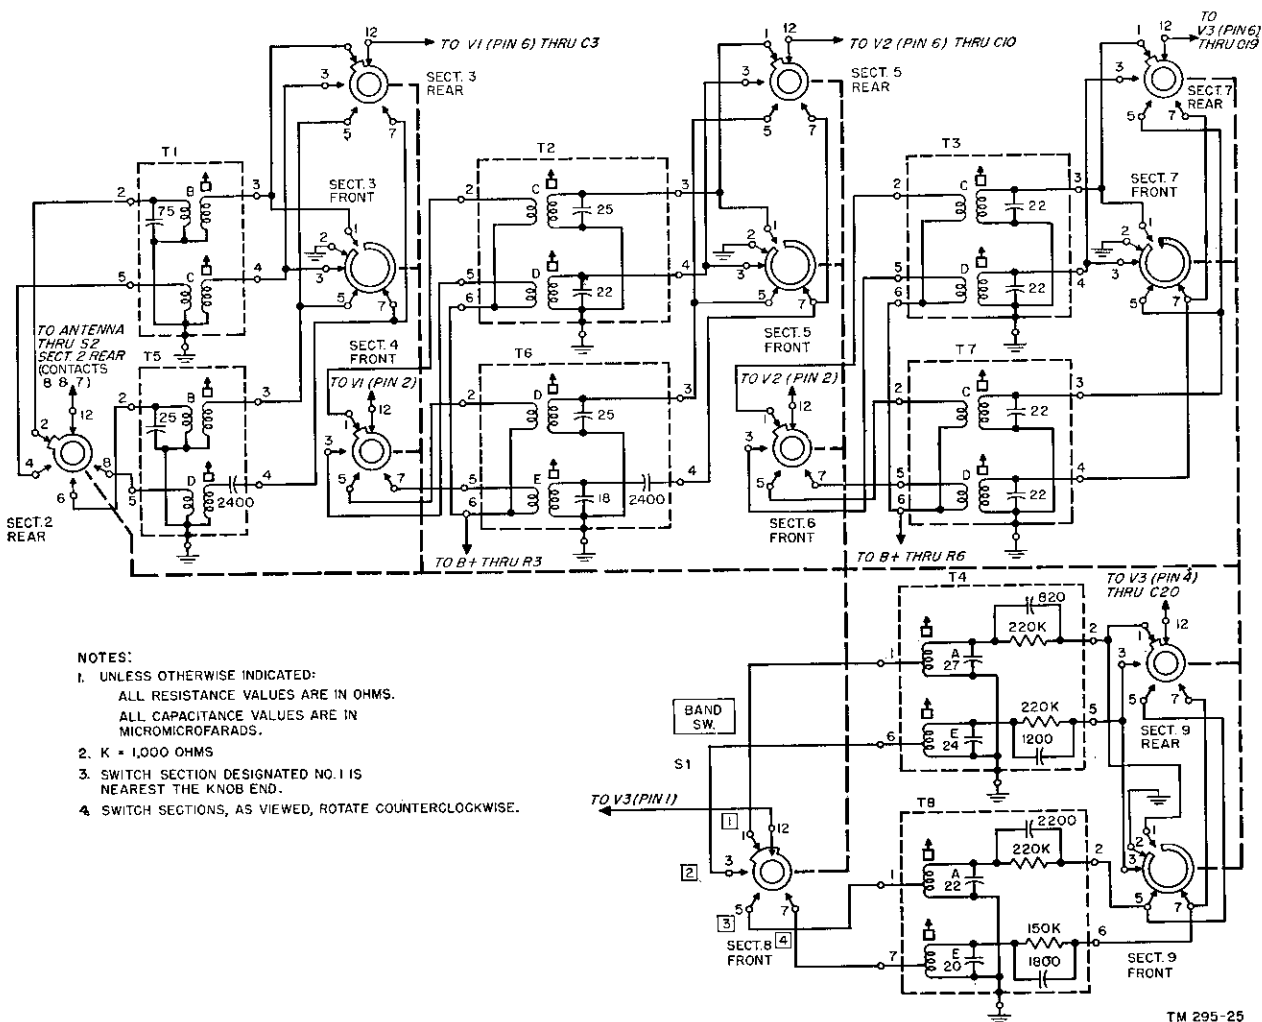
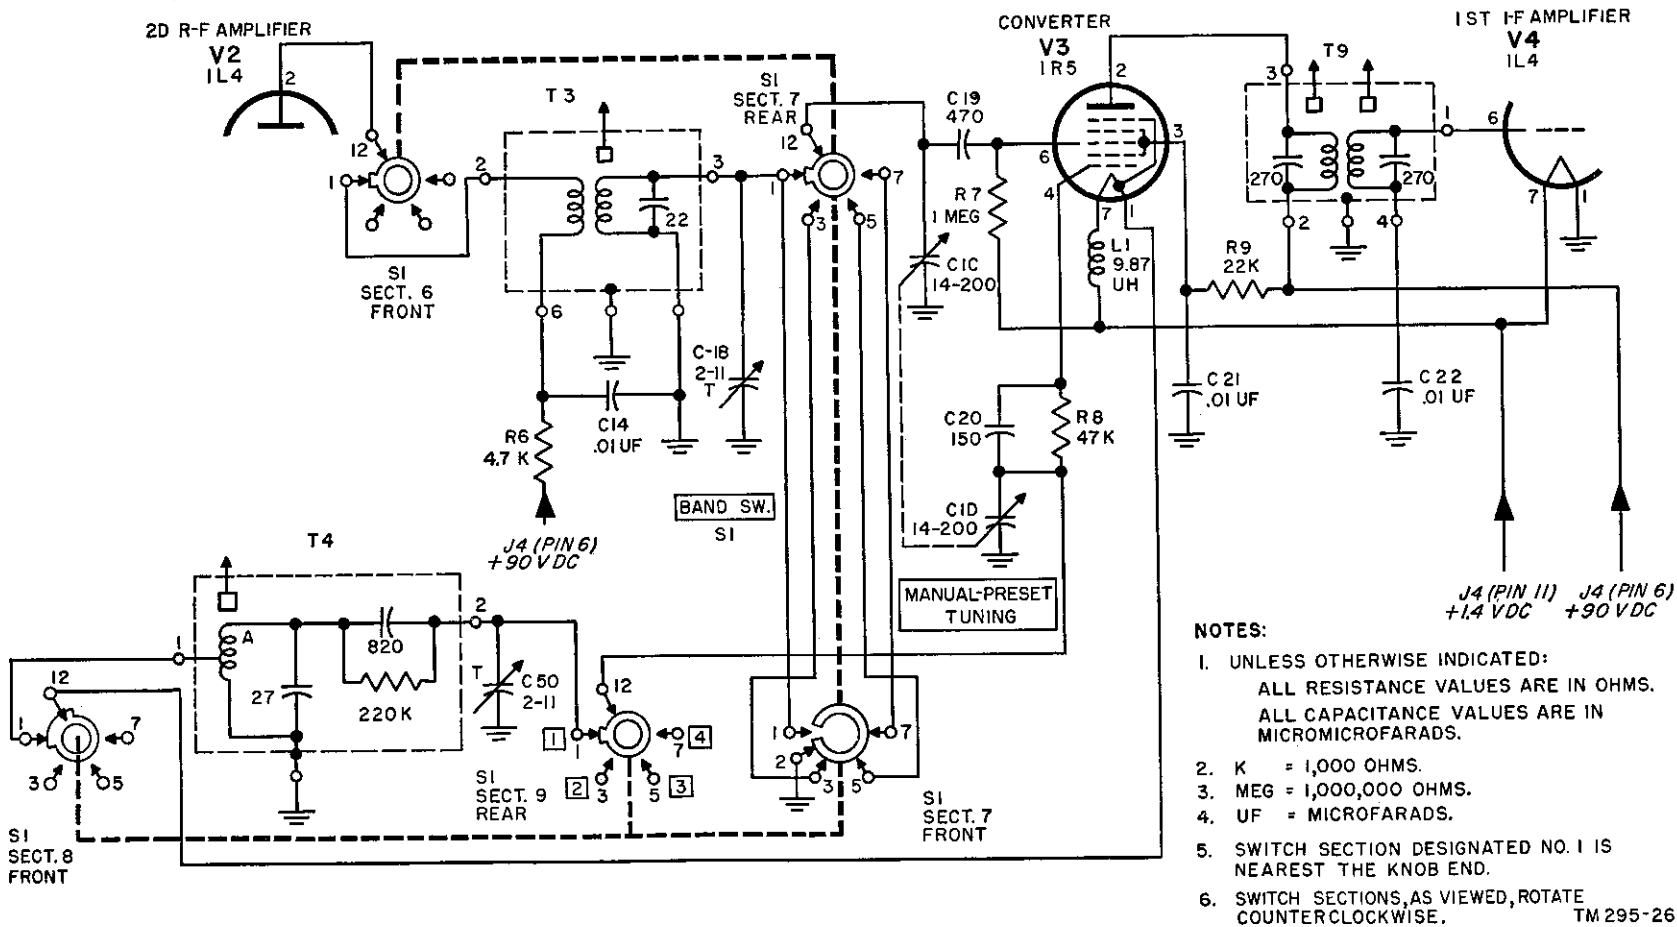

Figure 24. Radio Receiver R-174/URR, simplified control circuit of BAND SW. switch.
Figure 25. Radio Receiver R-174/URR, local oscillator and converter for band 1, functional schematic.
(figs. 24 and 43)
b. The secondary winding of transformer T1 is tuned by one section of the MANUAL-PRESET TUNING capacitor, C1A, and ANT. TRIMMER C2 (fig. 43). Section 3, rear, of the BAND SW. switch connects the capacitors across the winding. The tuned circuit is coupled to the grid (pin 6) of V1 through capacitor C3. Resistor R1 and avc circuit provide a d-c return for the grid circuit. Capacitor C11 is a part of the avc filter circuit. While band 1 is in use, another section of the BAND SW. switch (section 3, front) grounds the secondaries of all antenna coils not in use—in this case, winding C of T1 and B and D windings of T5 (fig. 24).
e. When BAND SW. switch S1 is placed in the band 2 position, the following circuit changes are effected to allow coverage of the 2.7- to 5-mc band (fig. 24).
- (1) Section 2, rear, and section 3, rear, select the C windings of T1 in place of the B windings as the antenna coil.
- (2) Section 3, front, removes the ground from the C winding of T1, and places a ground on the B winding.
- (3) Section 4 selects the D section of T2, in place of the C section, as the plate load for V1.
f. When BAND SW. switch is placed in band 3 position (fig. 24), coverage of the 5- to 9.5-mc band is provided through circuit changes similar to those detailed for band 2. When switch S1 is set to band 3, sections 2, rear, and 4, front, select the B windings of T5 and the D windings of T6 as antenna coil and V1 plate load, respectively. Section 3, front, of the switch grounds the unused secondaries of the antenna transformers. A 25- $\mu\mu\text{f}$  capacitor is in shunt with the primary of the antenna coil.
g. When BAND SW. switch is in band 4 position (fig. 24), windings D of T5 and winding E of T6 are selected to provide coverage of the 9.5- to 18-mc band. A 2,400- $\mu\mu\text{f}$  capacitor (in series with the secondary of T5) is used as a padder to provide proper tracking.
a. The signals amplified by V1 are coupled inductively to the second r-f amplifier (fig. 43, par. 52d). On band 1, the signals developed across the secondary of winding C of T2 are supplied to the grid (pin 6) of tube V2 through section 5, rear, of S1 and capacitor C10. The switch also shunts tuning capacitor C1B across the transformer. The tuning circuit of this band consists of a 25- $\mu$ f fixed capacitor, connected internally in the transformer assembly, MANUAL-PRESET TUNING capacitor C1B, and trimmer C9. Resistor R4 and the ave circuit provide a d-c return for the grid circuit. While band 1 is in use, section 5, front, of the BAND SW. switch (fig. 24) grounds the secondaries of the first r-f plate coils not in use—in this case, winding D of T2 and windings D and E of T6.
*d.* When BAND SW. switch S1 is placed in the band 2 position (fig. 24), the following circuit changes are effected to allow coverage of the 2.7- to 5-mc band.
- (1) Section 5, rear, selects the D winding of T2 in place of the C winding as the grid r-f coil. In parallel with the D winding is a 22- $\mu\text{mf}$  fixed tuning capacitor.
- (3) Section 6, front, selects the D winding of T3 in place of the C winding as the plate load for V2.
*e.* When BAND SW. switch is placed in band 3 position (fig. 24), coverage of the 5- to 9.5-mc band is provided through circuit changes similar to those detailed for band 2. Sections 5, rear, and 6, front, select the D winding of T6 and the C winding of T7 as the V2 grid coil and plate coil, respectively. A 25- $\mu\text{mf}$  capacitor acts as the fixed tuned capacitor in parallel with the D winding of T6. Section 5, front, grounds the unused r-f coils.
*f.* When BAND SW. switch is set to band 4 position (fig. 24) windings E of T6 (paralleled by an 18- $\mu\text{mf}$  fixed tuned capacitor) and D of T7 are selected to provide coverage of the 9.5- to 18-mc band. Section 5, front, grounds the unused coils. A 2,400- $\mu\text{mf}$  capacitor (connected in series with secondary winding E of T6) is the padder to provide proper tracking.
(figs. 24 and 25)
V3) at r-f ground (fig. 25). The grid circuit is tuned by the A winding of T4, a 27- $\mu\text{mf}$  fixed tuning capacitor, trimmer capacitor C50, and MANUAL-PRESET TUNING capacitor C1D.
*b.* Section 8, front, of BAND SW. switch S1 connects the tap of the A winding to the filament cathode, and section 9, rear, connects the tuned output of the tank across C1D and thence to the grid circuit. The 220K-ohm grid d-c return resistor and the 820- $\mu\text{mf}$  fixed padder capacitor are connected internally in the coil assembly. Resistor R8 and capacitor C20 form the grid-leak bias network for the oscillator. Section 9, front, of BAND SW. switch S1 grounds the unused winding E of T4 and windings A and E of T8 (fig. 24).
*c.* The local oscillator uses the filament and first two grids of a 1R5 pentagrid converter tube (fig. 25). Filament voltage for the tube is obtained from the 1.4-volt d-c potential at pin 11 of J4, through r-f choke L1. L1 maintains the filament above r-f ground potential. Oscillator plate (pin 3) voltage is supplied through voltage-dropping resistor R9 from the 90-volt d-c potential appearing between pin 6 of J4 and ground. Capacitor C21 places the oscillator plate at r-f ground potential.
*d.* When BAND SW. switch is placed in band 2, the following circuit changes are effected (fig. 24):
- (1) Section 8, front, removes winding A of T4 from the cathode circuit and connects in winding E of T4.
- (2) Section 9, rear, removes winding A of T4 from the grid circuit and connects in winding E of T4.
- (3) Section 9, front, grounds winding A of T4, and removes the ground from winding E.
*e.* When BAND SW. switch S1 is placed in band 3 position (fig. 24), circuit changes are provided similar to those detailed for band 2.
f. When BAND SW. switch S1 is placed in band 4 position (fig. 24), winding E of T8 is used, and all other windings are grounded.
a. The incoming signals are coupled inductively to the secondary of winding C of T3 (fig. 25). This winding is tuned by section C1C of the MANUAL-PRESET TUNING capacitor. Section 7, rear, of BAND SW. switch S1 connects the capacitor across the winding. The tuned circuit is coupled to the grid (pin 6) of V3 through capacitor C19. Resistor R7 provides bias voltage and a d-c return for the grid circuit. When BAND SW. switch S1 is in band 1 position, section 7, front (fig. 24), grounds the secondaries of the r-f transformers not in use—in this case, D winding of T3, C and D windings of T7.
d. When BAND SW. switch S1 is in band 2 position, the following circuit changes are effected (fig. 24):
- (1) Section 7, rear, selects the D winding of T3 in place of the C winding.
- (2) Section 7, front, grounds the C winding of T3 and removes the ground from the D winding.
e. In band 3 position of BAND SW. switch S1 (fig. 24), section 7, rear, selects the C winding of T7, and section 7, front, grounds the D winding of T3.
f. In band 4 position of BAND SW. switch S1 (fig. 24), section 7, rear, selects C winding of T7, and section 7, front, grounds D winding of T7.